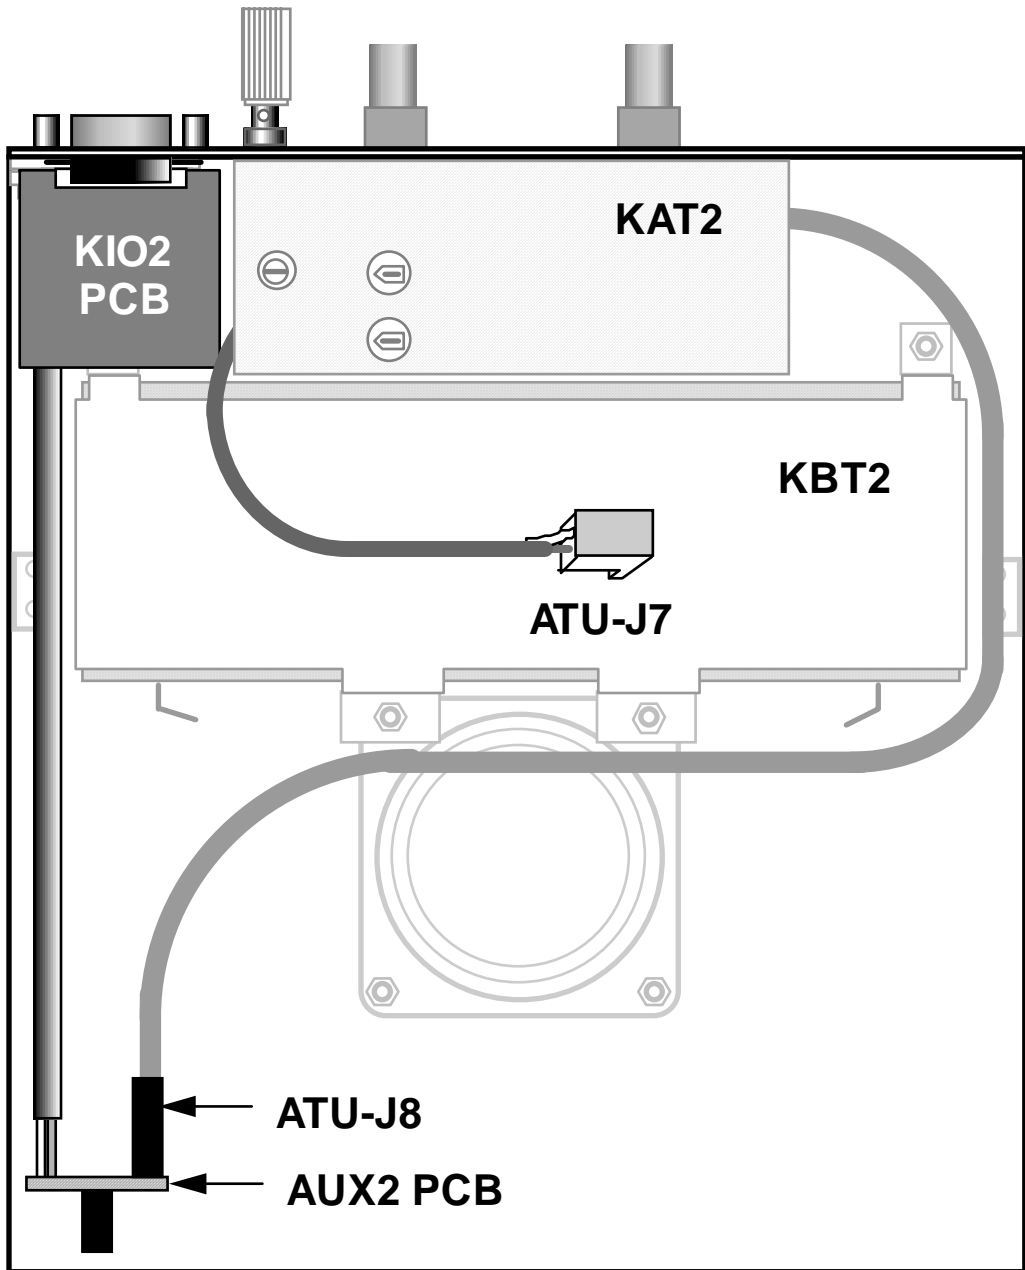

Figure 9. KIO2 installation in top cover (see text).
Figure 9 (previous page) shows where the KIO2 board will be installed in the K2's top cover. The KIO2's female D connector will be mounted in the hole labeled "AUX I/O" on the rear panel. The ATU's control cable will plug into the AUX2 board (if applicable). **There is no need to remove the battery or ATU.**
- Position the KIO2 module as shown in Figure 9. The side of the board with the crystal (X1) should be facing up; the side with the cable connections faces down. If you have the module placed correctly, the female connector will be aligned with the trapezoid-shaped AUX I/O panel hole. **Note:** The module may be a very tight fit if you have the battery installed.
- Use the provided cable ties to keep all option cables in place. If any of the cables lay across the RF board once the top cover is re-installed, they could cause spurious signals in the receiver. The best location for the cable ties depends on which options you have installed. If you have a battery installed, make sure that the KIO2 cable runs along the side of the battery, just above the 2-D fastener (Figure 9). You can bundle the KIO2 cable along with the red wires running to the battery on/off switch.